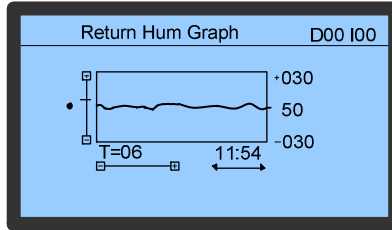

Figure 1-38 Return Hum Graph interface
2. Select **Temp/Hum Graph** -> **Return Hum Graph** to enter the **Return Hum Graph** submenu, as shown in Figure 1-38.